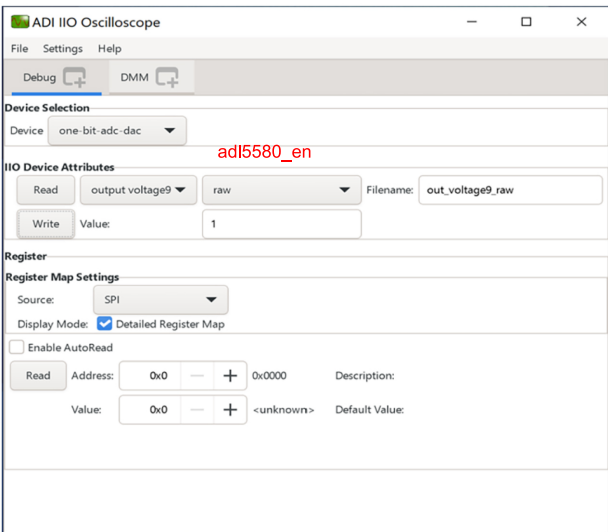

Figure 21. Register Settings for the AD9213 High-Speed Path adl5580_en
- **adi5580_en** set to 1, as shown in Figure 21.